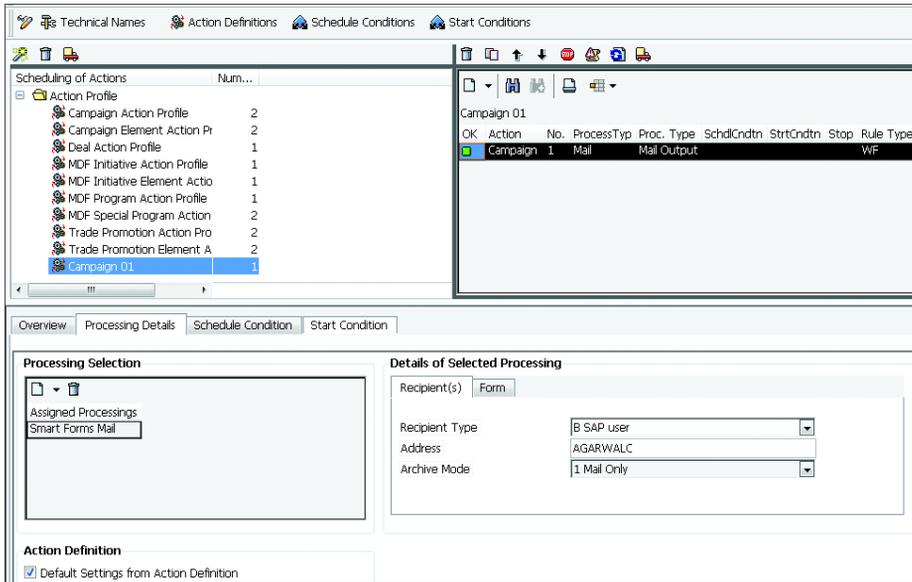

Figure 5.29 Conditions
- Go to the PROCESSING DETAILS tab, and assign the RECIPIENT TYPE as B SAP USER and your user ID in the ADDRESS field (see Figure 5.29).